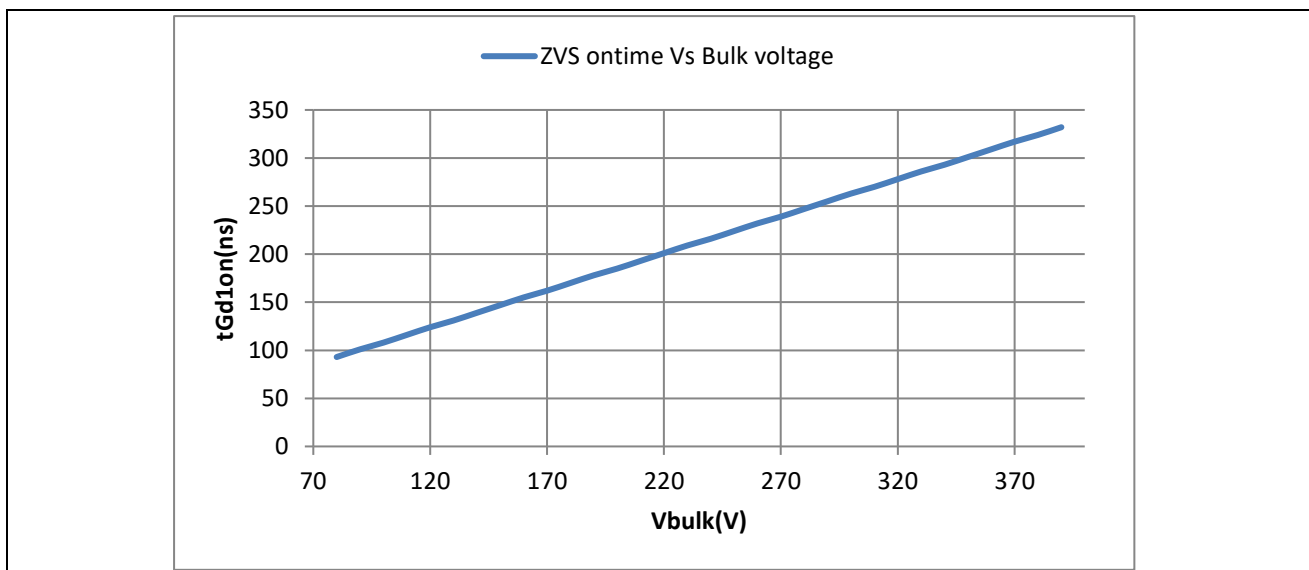

Figure 30 V_{Bulk} depended adaptive ZVS pulse length t_{GD1on}
The parameter BULK_VOLTAGE(V) is calculated based on the measured current at HV pin I_{HV} via the external resistor $R_{HV} = 102k\Omega$. Figure 30 shows the default configured relationship between the controlled ZVS pulse length t_{GD1on} and V_{Bulk} based on default $K_{zvsfactor}=3200$.